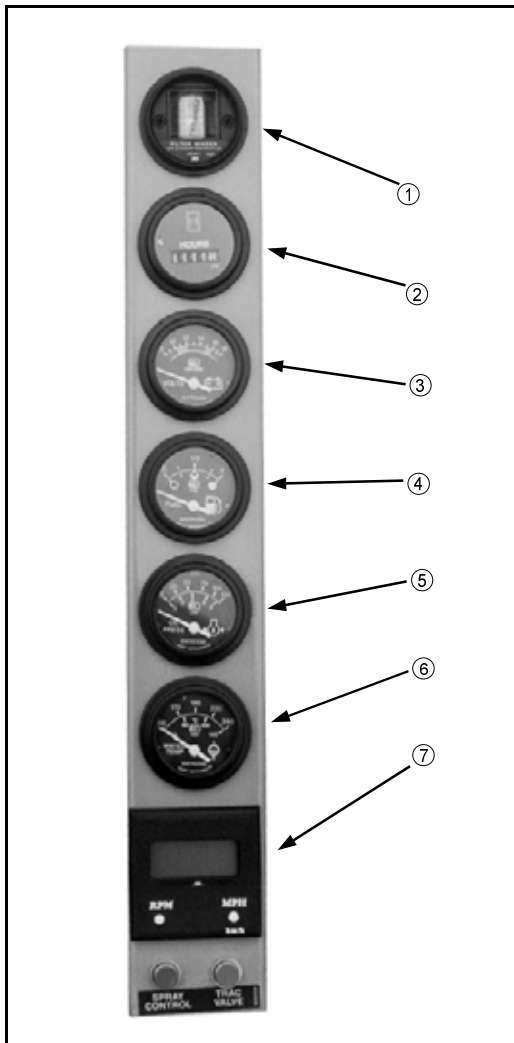

FIG 5.127
Filter Minder® - (fig. 5.127, item 1) The Filter Minder® is an engine air filter restriction monitoring device. For more information, see page 104.
Hour Meter - (fig. 5.127, item 2) The hour meter progressively records elapsed time of sprayer operation. It is useful for determining service intervals.
Volt Meter - (fig. 5.127, item 3) The volt meter measures voltage from the alternator on the diesel engine. A “RED” indicator light will alert the operator if the system is operating either too low or too high.
Fuel Gauge - (fig. 5.127, item 4) The fuel gauge measures the amount of fuel in either fuel tank, depending on the tank selected with the fuel switch. A “YELLOW” indicator light alerts operator of low level operation.
Engine Oil Pressure - (fig. 5.127, item 5) The oil pressure gauge monitors pressure of the engine lubricating system. A “RED” indicator light alerts the operator of low level operation.
Water Temperature - (fig. 5.127, item 6) The water temperature gauge monitors the engine cooling system. A “RED” indicator light alerts the operator of unsafe operating temperatures.
Speedometer/Tachometer - (fig. 5.127, item 7) Unit will display either engine RPM or speed of travel depending on operator’s selection. See next page for more information on the speedometer/tachometer.